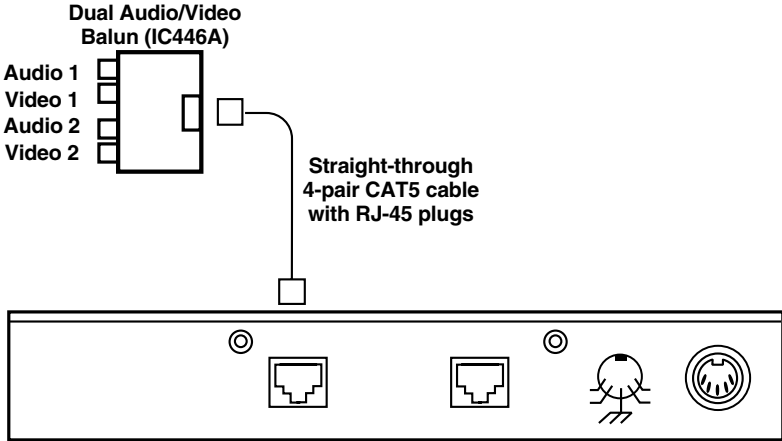

Figure 3-5. Balun-to-hub input connection (IC446A balun shown).
6. Connect the cable coming from the A/V source devices to the RJ-45 input jack on the hub's rear panel, as shown in Figure 3-5.